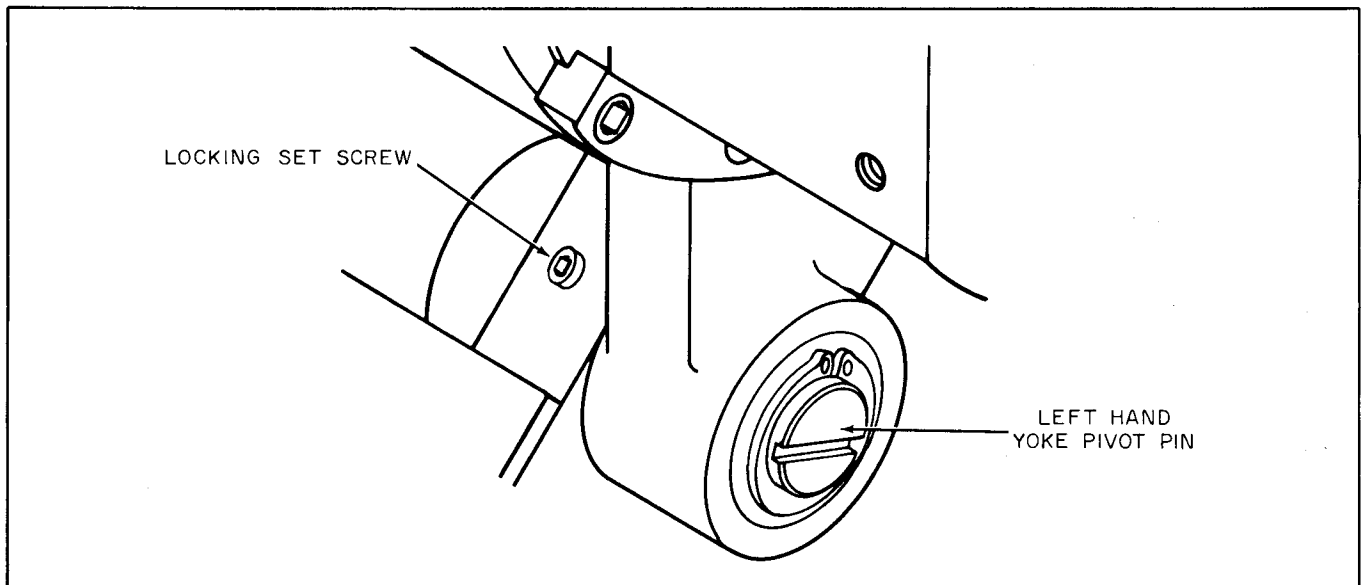

Figure 7-2. Yoke Alignment Adjustment
3. Loosen locking setscrew (Figure 7-2).